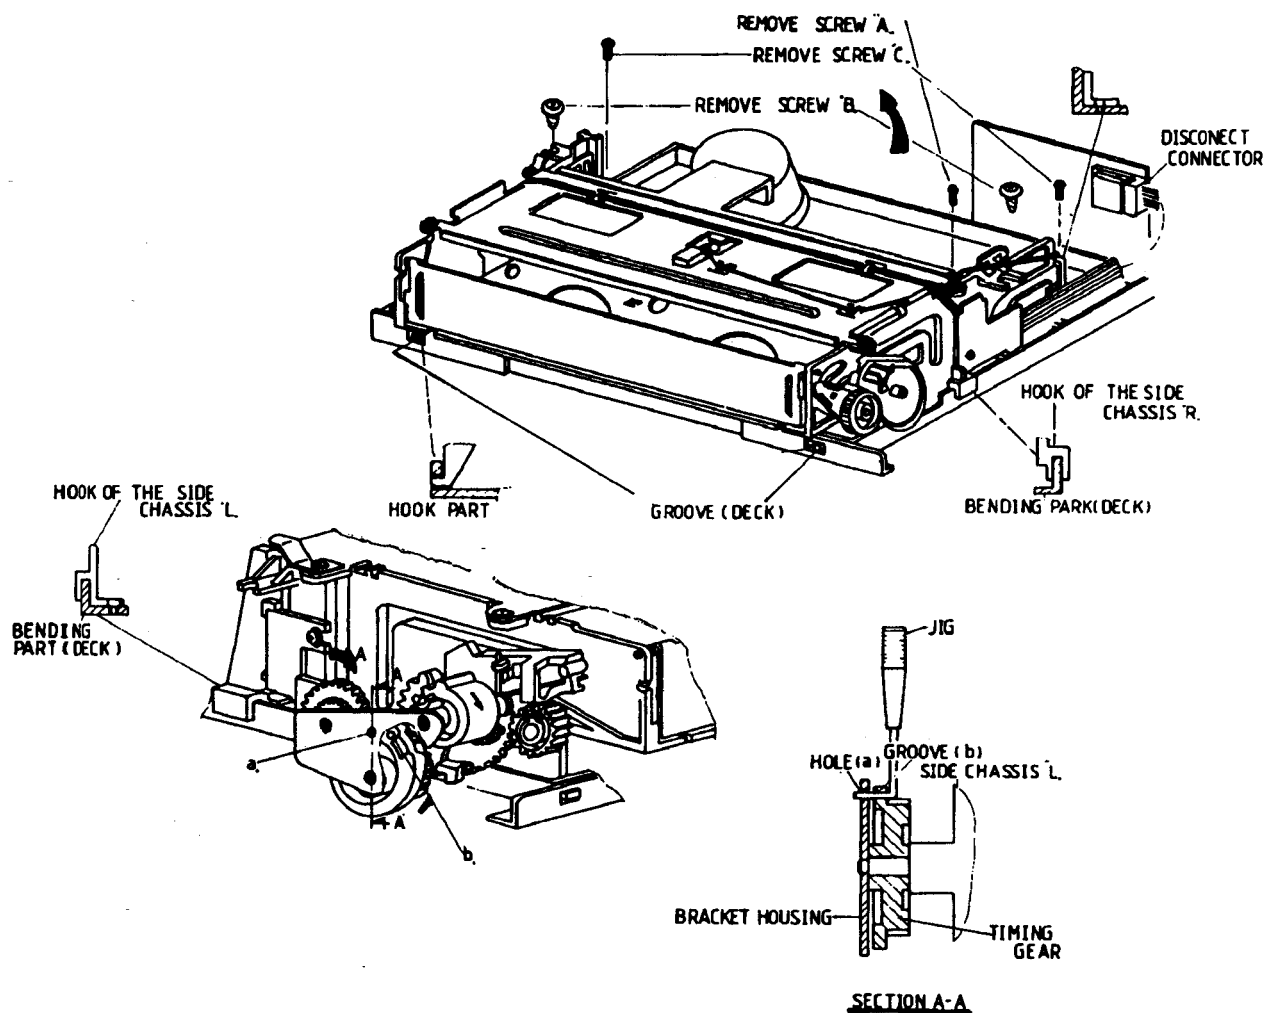

Fig.12
* When reinstalling housing assembly to the deck, first insert the hook part of the housing ass'y into the groove of the deck. Second fit the hook of the side chassis(R)(L) to the bent part of the deck.
A) Assembling point is the point that the hole of the gear holder plate corresponds to the groove of the timing gear as in Fig 12/A-A'.